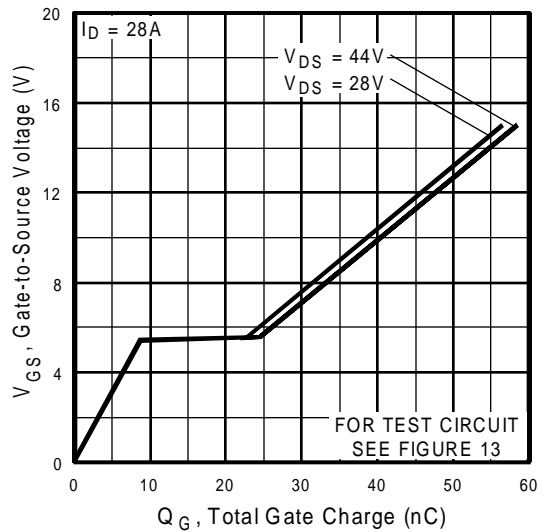

Fig 6. Typical Gate Charge Vs. Gate-to-Source Voltage
| Q_{gd} | Gate-to-Drain ("Miller") Charge | — | — | 24 | | $V_{GS} = 10V$, See Fig. 6 and 13 ④ ⑤ |